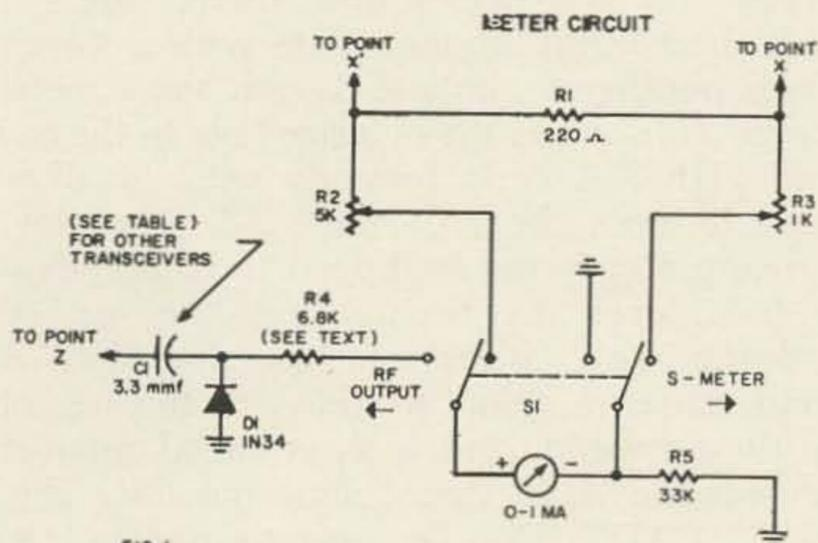

FIG. 1
The meter serves three useful purposes when wired as shown in Fig. 1. With the meter selector switch (SI) in the "S-Meter" position, the relative strength of incoming signals is shown, and the receiver can be tuned to the "center" of the received carrier; also, when used with the "spot" switch described further on, it gives definite indication of transmitting crystal activity and frequency on the receiver dial. In the "RF Output" position of
To add the meter circuit break the connection at "X." This can be located by following the normally-connected lead of the transmit receive switch. This lead goes to a terminal strip under the chassis. Locate the 10K resistor (brown, black, orange) that goes to pin 3 of V2 (via the *if* can), and disconnect this resistor from the terminal strip. Connect this free end of the resistor to an unused lug of the terminal strip. Now wire in the circuit in Fig. 1.